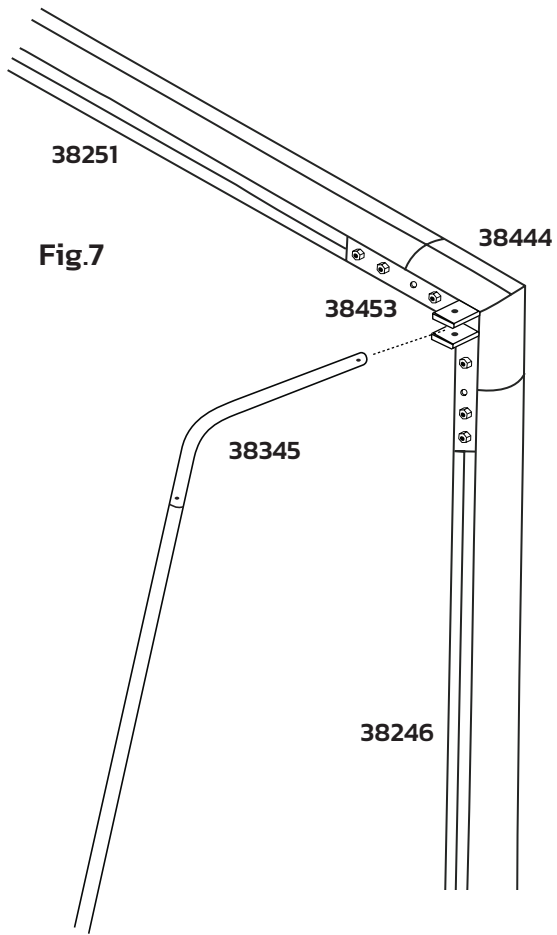

Fig.7
Step 7 – Attach Side Frames to Goal Frame (Fig. 7)